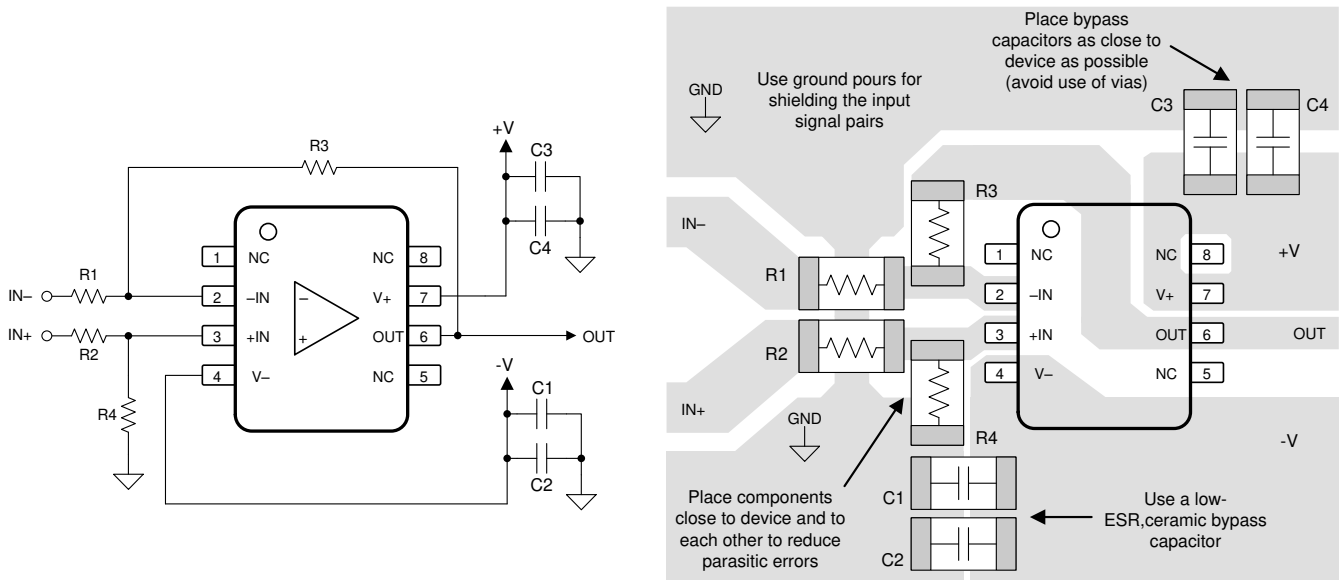

Figure 9-10. Operational Amplifier Board Layout for Difference Amplifier Configuration
- Place the external components as close as possible to the device. As illustrated in Figure 9-10, keep RF and RG close to the inverting input to minimize parasitic capacitance.